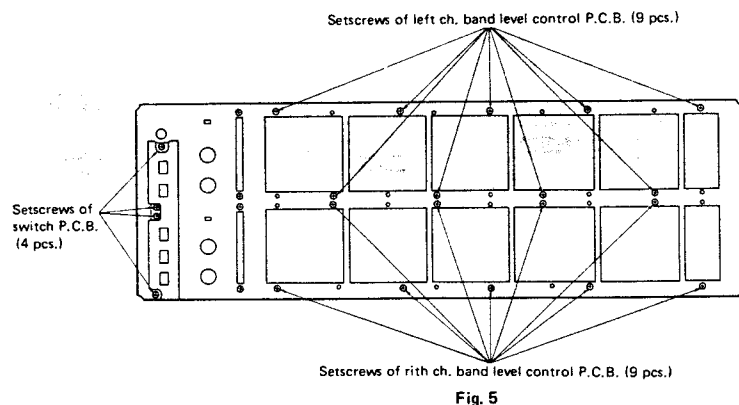

Fig. 5
4. Remove the 9 setscrews which secure the R or L channel P.C.B. [Fig. 5]
2. Remove the 4 setscrews of switch P.C.B. [Fig. 5].